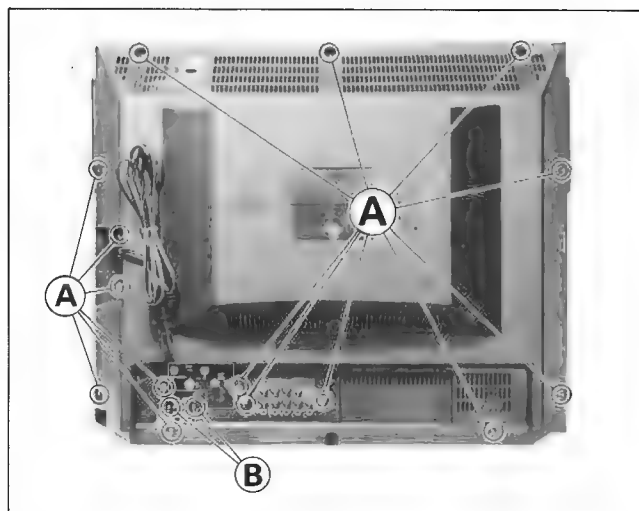

Fig. 5-1
1. Unplug the power supply cord and unscrew the seventeen screws (A) & (B) shown in Fig. 5-1.